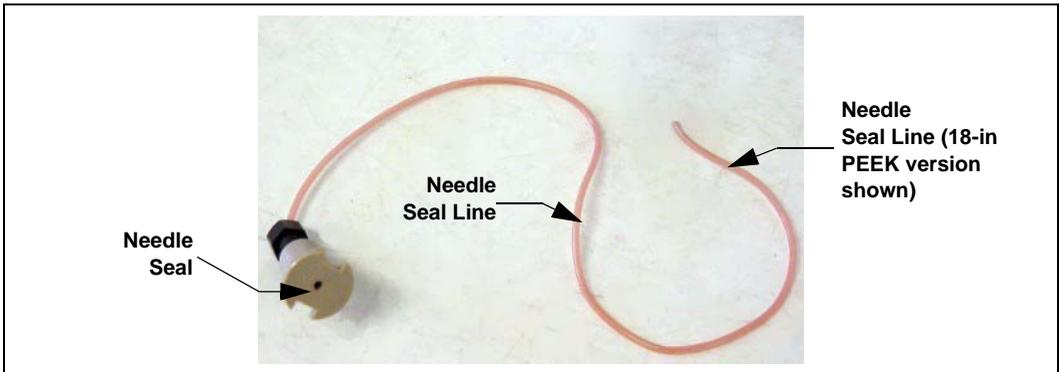

Figure 5-15. Needle Seal Assembly
5. Thread the new needle seal line (see Figure 5-15) down through the top of the inject port.